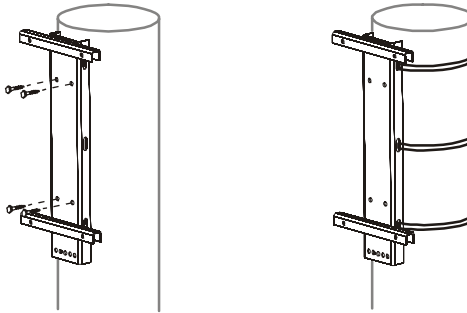

Figure 4.1 ARU Mounting Bracket Options (screw mount or steel band mount)
1. Mount the ARU hanger bracket on the HPCU support pole, or a near alternative. Consult the Carrier with respect to specific requirements. The bracket can be attached with four screws or three steel bands - see Figure 4.1.